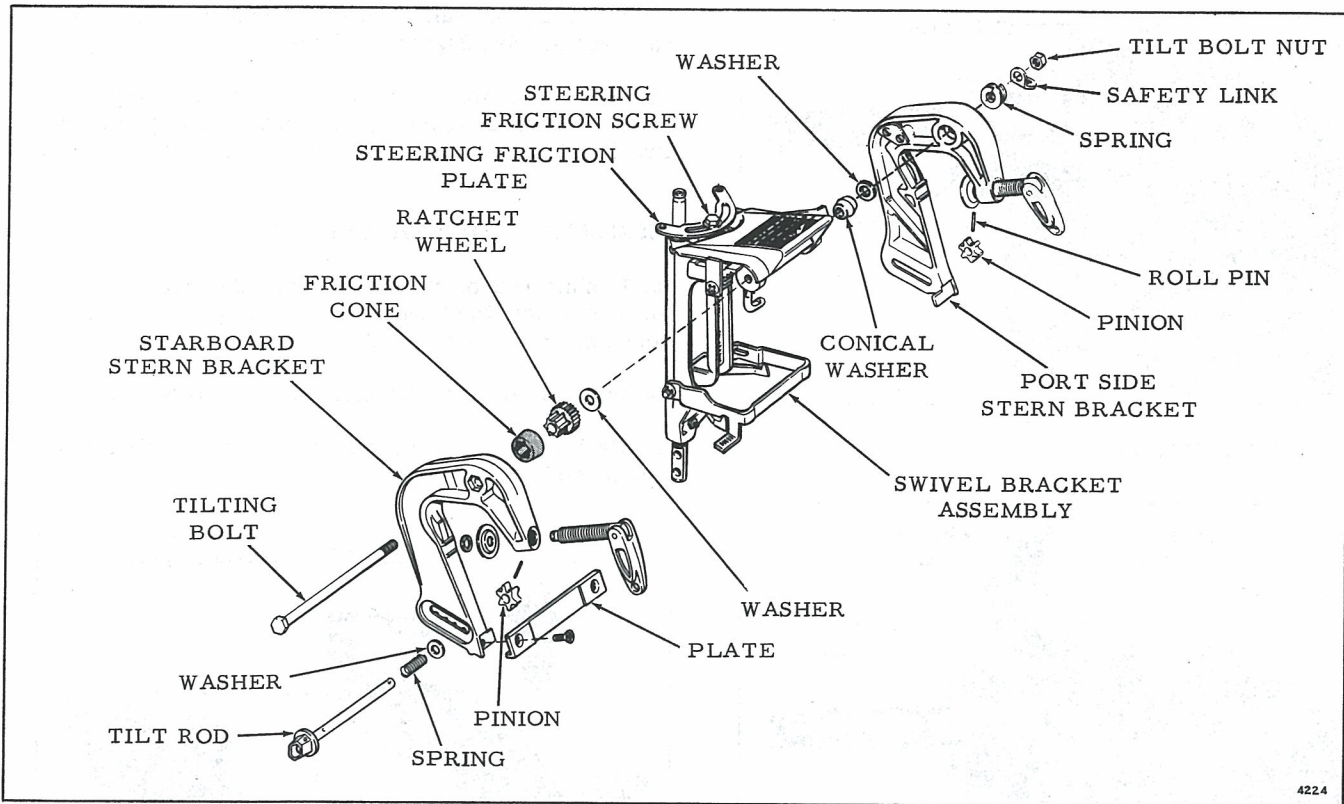

Figure 6-14. Stern Bracket Components
b. Remove tilt bolt nut and withdraw bolt to separate stern brackets from swivel bracket. Spring, ratchet wheel, washers, and friction cone will drop out. Stern brackets may be separated for individual servicing by removing connecting plate screws. See Figure 6-14.